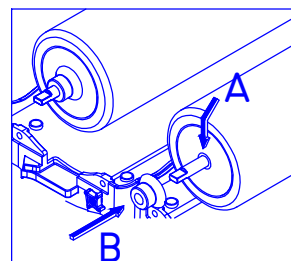

Fig. 19
Lubricate the surface of the cylinder in the zone of the transmission shaft outlet as shown by the arrow (A). ( Fig. 19) Place the spiral blade basket lubricating both the internal and external part. (see arrow B - Fig. 19)